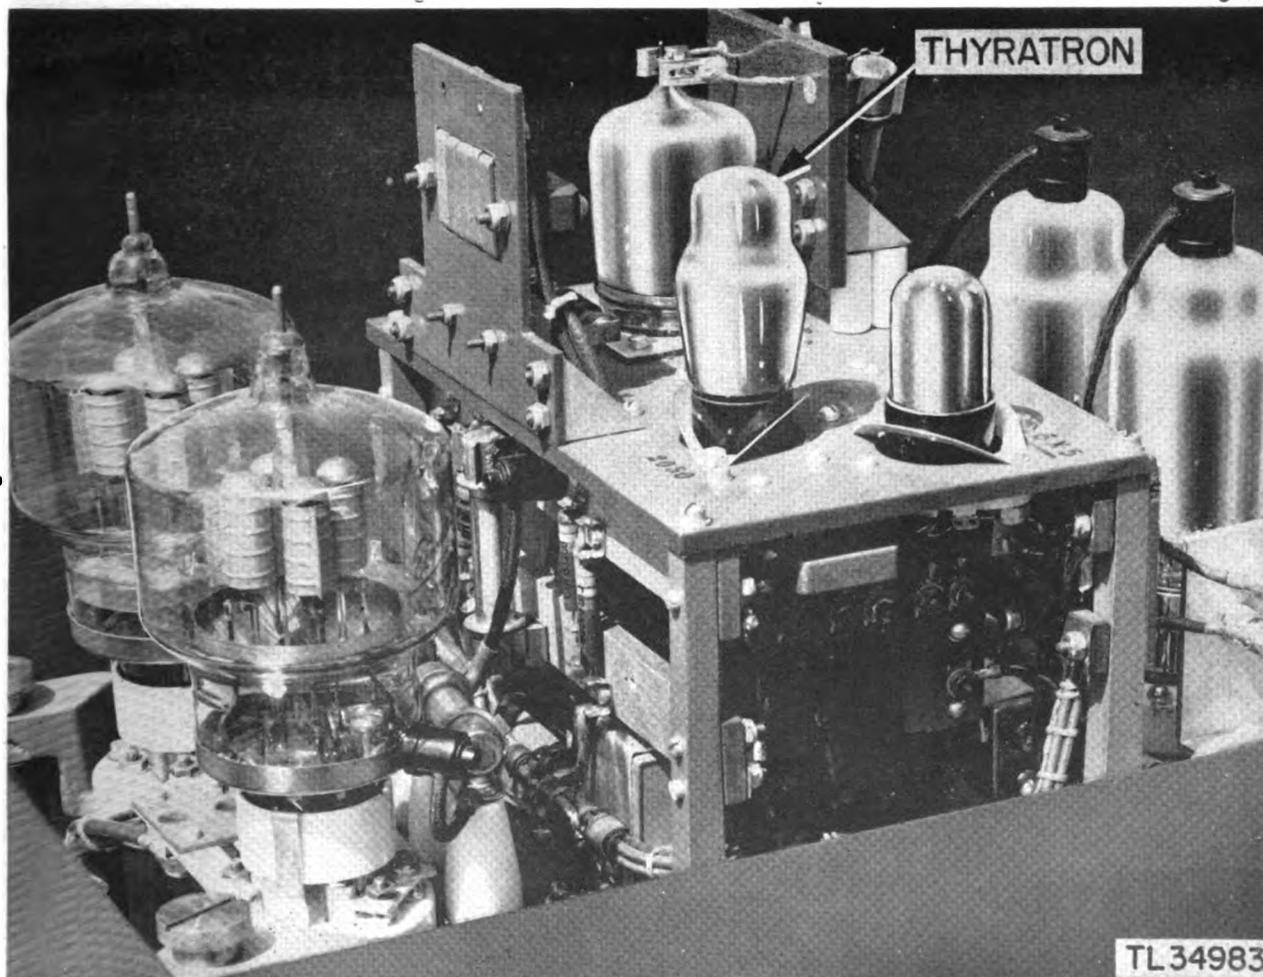

Figure 62. Modulator tubes.
**HOW TO OBTAIN THE INFORMATION.** Open the upper left door of the transmitter cabinet. Make the necessary inspection by looking through this door, downward to the right. Figure 62 shows the modulator tubes.